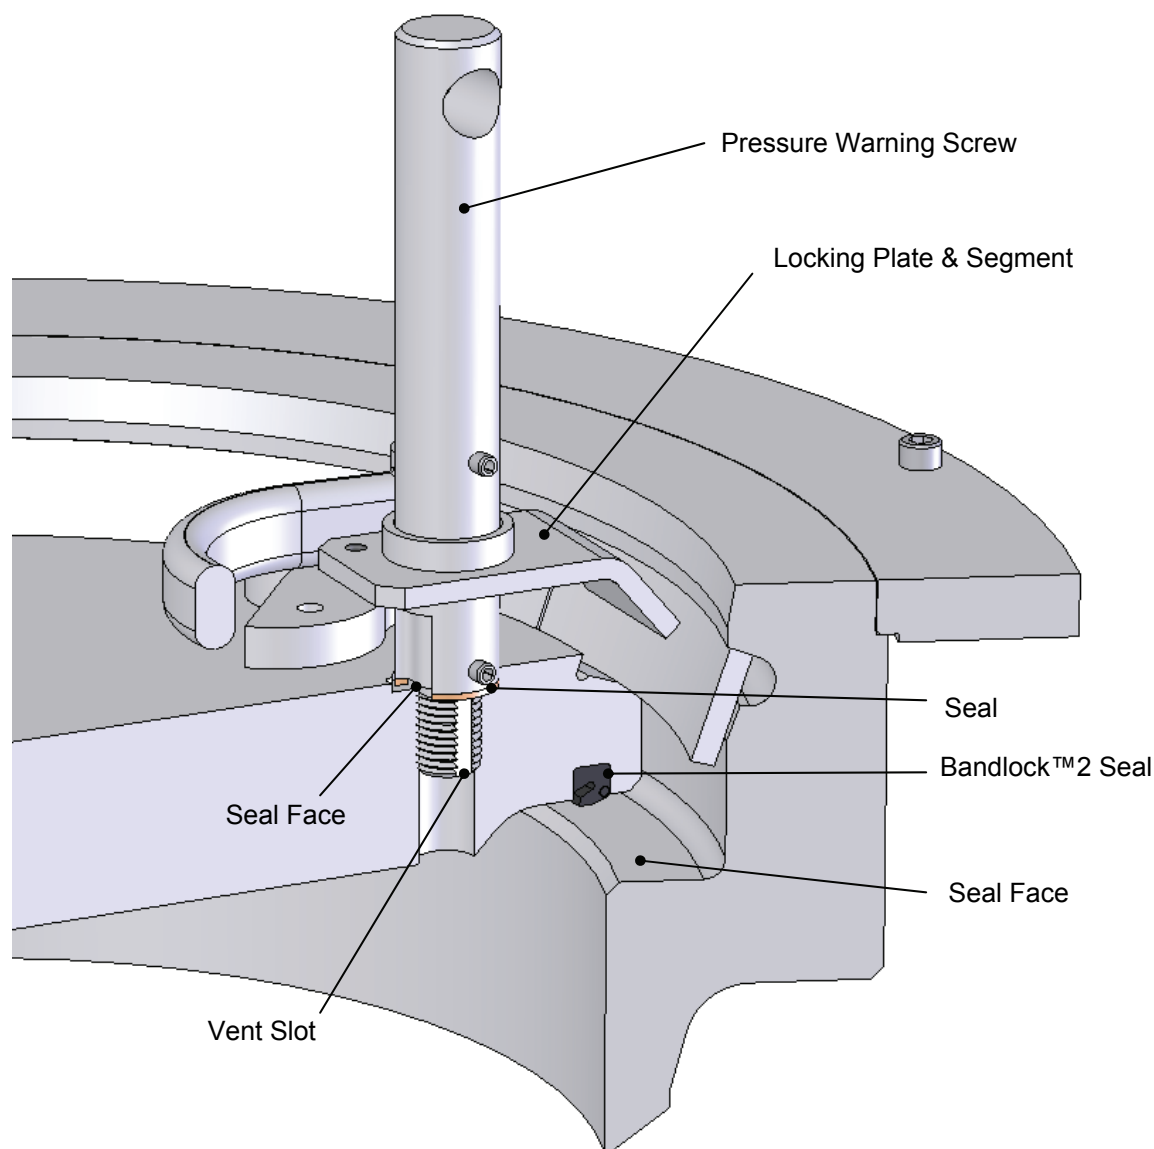

Fig 3.0 – Seal and pressure warning screw details
- 3 When completely satisfied that the closure is safe to open, remove the pressure warning screw and its integral locking plate (reference Fig. 3.0) from the closure.